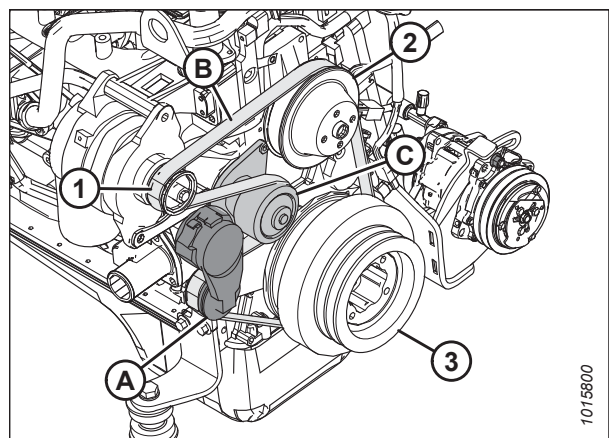

Figure 6.176: Engine Belt
5. Insert the drive end of a 1/2 in. drive ratchet wrench into belt tensioner (A).
6. Rotate tensioner counterclockwise until fan belt (B) can be slipped off pulley (C). Release the tensioner and remove the wrench.
7. Remove the belt in order 1, 2, 3, as shown in Figure 6.176, page 394.
8. Insert the drive end of a 1/2 in. drive ratchet wrench into belt tensioner (A).
9. Rotate the tensioner counterclockwise until belt (B) can be slipped onto pulley (C). Release the tensioner and remove the wrench.